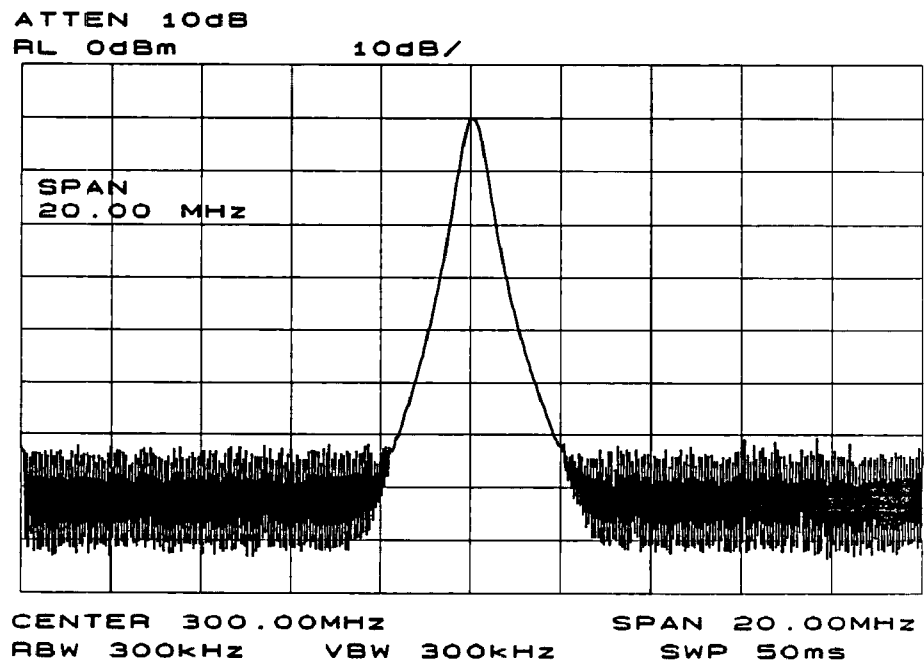

Figure 1-6. Frequency Span Reduced to 20 MHz
2. Set the frequency span. Press **SPAN**. Note that SPAN is now displayed in the active function block, identifying it as the current active function. To reduce the frequency span—for example, to 20 MHz—either key in **20 MHz** or use the step down-arrow key to “step down” to this value. (Like data keys, step keys can also be used to change the numeric value of the active function.) The resulting display is shown in Figure 1-6. Note that the resolution and video bandwidths are coupled to the frequency span; they are automatically adjusted to appropriate values for a given span. Sweep time is also a coupled function.